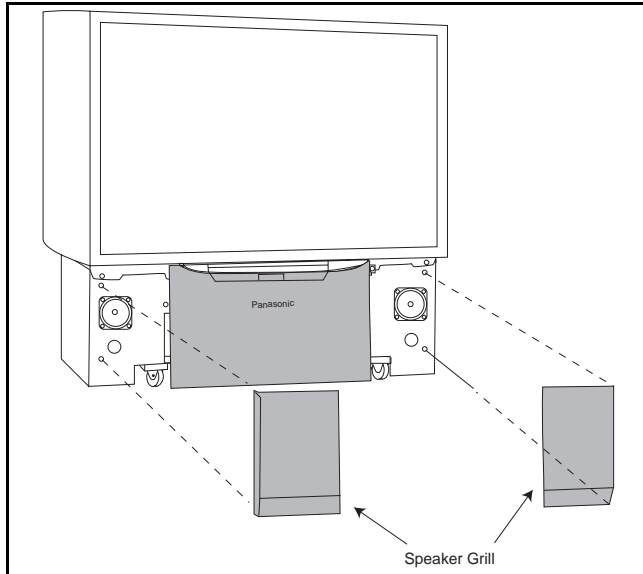

Figure 8. **Speaker Grille Removal.**
(Figure 8.)
(Figure 8)
1. Remove the Speaker Grill. (see Figure 8)
2. Unplug the cables (2) from the Keyboard assembly. Remove the 2 screws from the left and right sides of Keyboard assembly. Tilt the Keyboard assembly upward and release it from the screen frame assembly.
1. Remove the speakers grill. (see Figure 8)
2. Each speaker set is secured to the cabinet with (4) screws.
1. Remove the Speaker Grill (Figure 8)